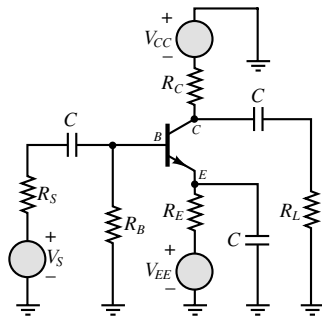

Figure P10.33
- 10.33** Shown in Figure P10.33 is a common-emitter amplifier stage implemented with an *n*pn silicon transistor and two DC supply voltages (one positive